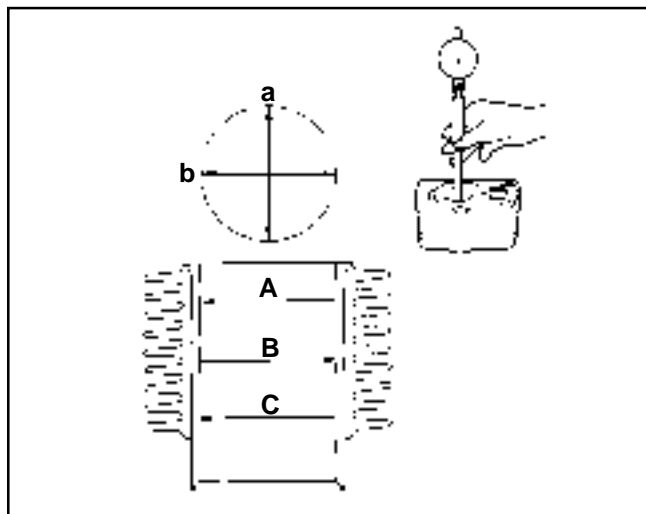

Figure 10-6. Measuring Cylinder Bore.
Check the cylinder bore for wear, scoring, or vertical scratches. In severe cases, unburned fuel can cause scuffing and scoring of the cylinder wall, it washes the necessary lubricating oils off the piston and cylinder wall. As raw fuel seeps down the cylinder wall, the piston rings make metal to metal contact with the wall. Scoring of the cylinder wall can also be caused by localized hot spots resulting from blocked cooling fins or from inadequate or contaminated lubrication. Measure the cylinder bore using an inside micrometer or bore gauge. See Figure 10-6. Compare readings with specifications in Section 1.
4. After resizing, check the bore for roundness, taper, and size. Use an inside micrometer, telescoping gauge, or bore gauge to take measurements. The measurements should be taken at three locations in the cylinder – at the top, middle, and bottom. Two measurements should be taken (perpendicular to each other) at each of the three locations. See Figure 10-6